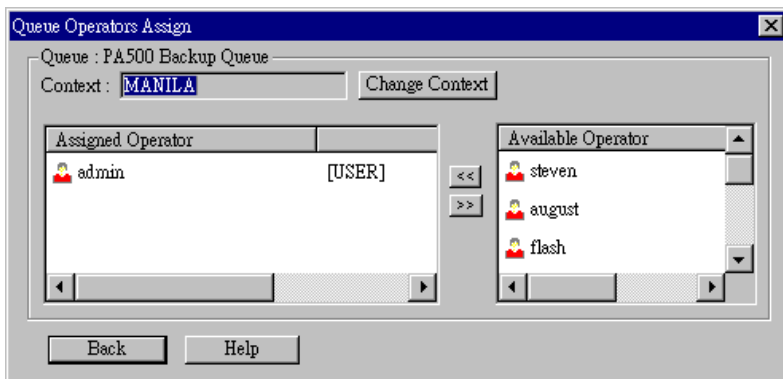

Figure 67: Assign Operators to Queue (NDS PS mode)
- **Operator** - Assign Operators to the NetWare Print Server object. (Optional) These operators will then have permission to manage the NetWare Print Server object. The screen is identical to *Figure 67: Assign Operators to Queue (NDS PS mode)*